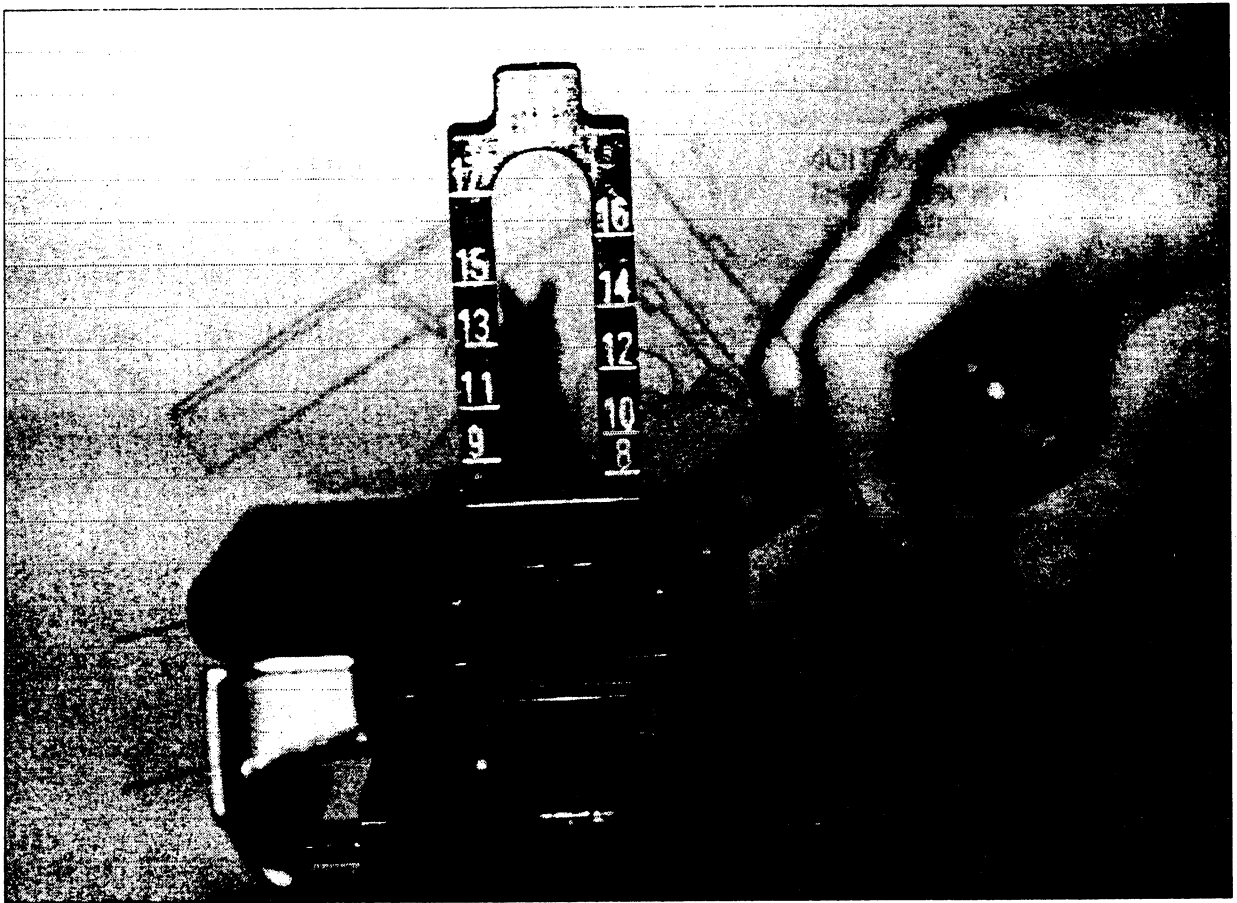

Fig 1-4. Rear sight in the upright position.
b. Rear sight. The rear sight consists of a peep-sight aperture on an adjustable sight-leaf slide. The sight-leaf slide rides on a range plate with a graduated scale that is attached to the weapon by a hinged mount. You will normally carry the gun with the sight in the horizontal (down) position. You can use the gun with the sight in this position to engage targets at a distance of 800 meters or less. You must raise the gun to engage targets at a distance of more than 800 meters. You will see that the range plate scale, which is located on both sides of the range plate, is marked at 100 meter intervals. This scale begins at 200 meters and continues to the maximum effective range of 1800 meters. You can make range changes by moving the rear sight slide horizontally along its graduated steps for range settings from 200 to 800 meters. For ranges beyond 800 up to 1800 meters, you must raise the sight to its upright position (fig 1-4).